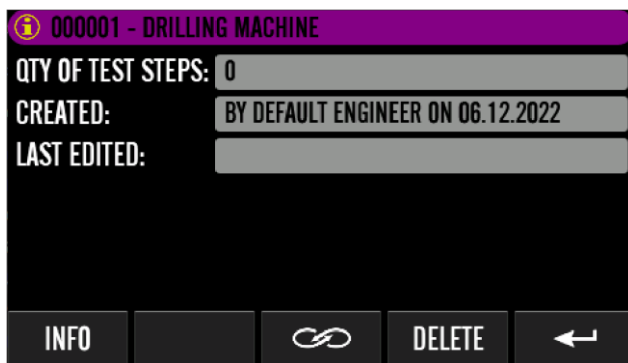

Figure 144. “TEST PLAN” with basic data, example
- Select wished "TEST PLAN" to be continued and confirm it by pressing "←" menu key ⇒ display will turn to "TEST PLAN" screen with basic information i.e. with QTY OF TEST STEPS, CREATED date and LAST EDITED date, see the figure 144 on page 153.
- 6) If needed again, view/edit test steps. For this purpose turn rotary switch #2 to AUTO position (12), press CONTINUE to turn to "TEST PLAN" with basic data (see the figure 144 on page 153), and then press "←" menu key to turn to "TEST PLAN" with a list of test steps.
- Select wished “TEST PLAN” to be continued and confirm it by pressing “←” menu key ⇒ display will turn to “TEST PLAN” screen with basic information i.e. with QTY OF TEST STEPS, CREATED date and LAST EDITED date, see the figure 144 on page 153.